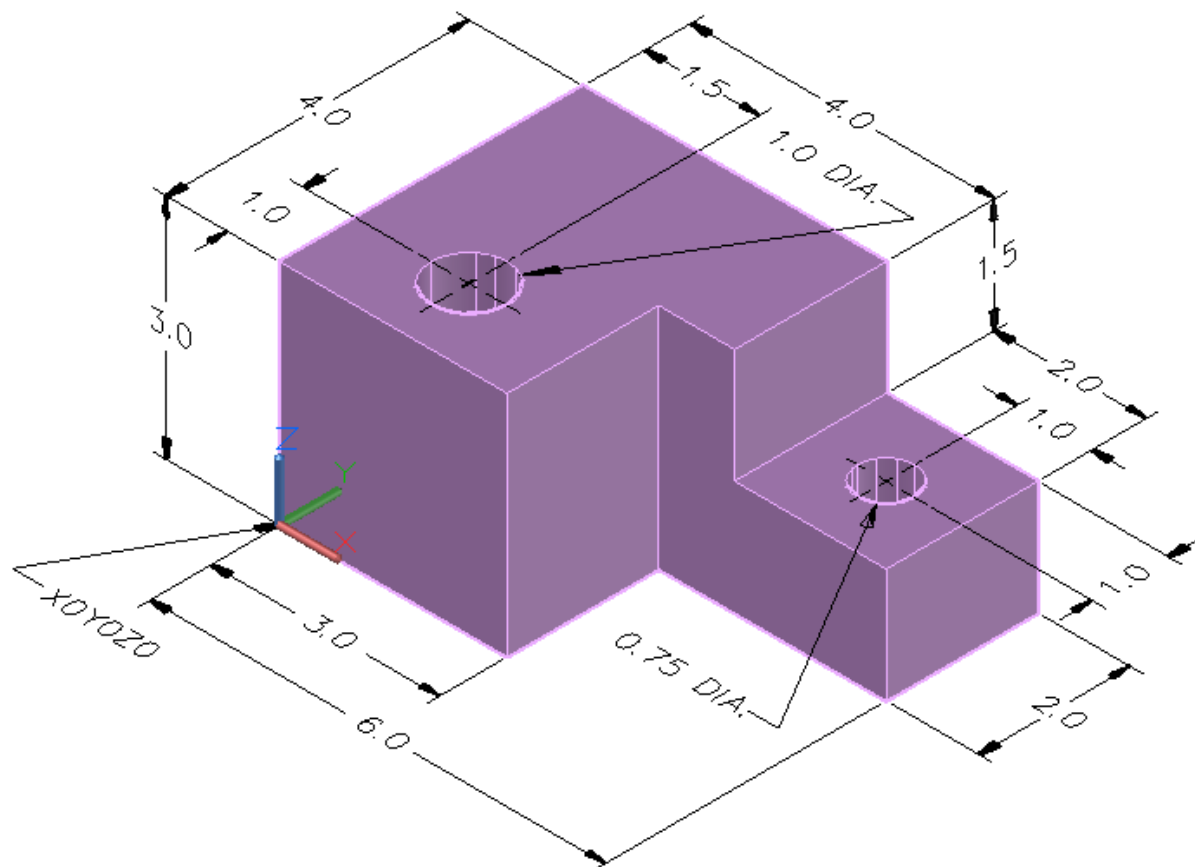

Figure Step 3A
- Step 3** Draw a wireframe model of the object shown in the figure. (Figure Step 3A and 3B)